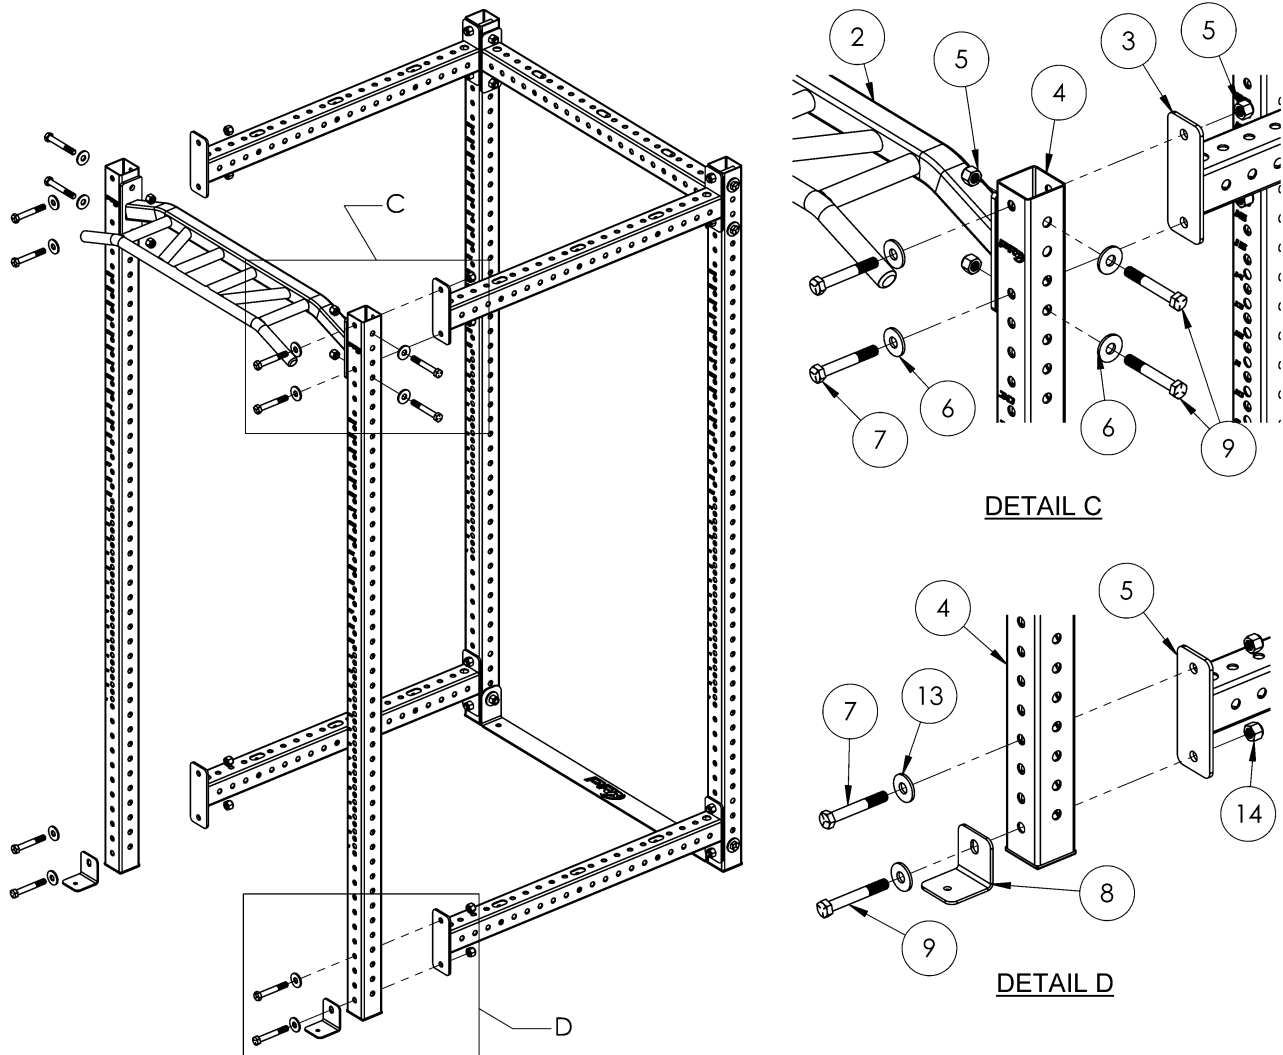

Figure 2
1. Attach the front Uprights (4) to the front of the Crossmembers (3) with hardware shown. **Figure 2 Details, C & D**
2. Attach the L-Feet (8) to the front of the uprights with hardware shown. **Figure 2, Detail D**
3. Attach the Multi-Grip Pull-Up bar (2) between the top of the front Uprights (4) with hardware shown. **Figure 2, Detail C**